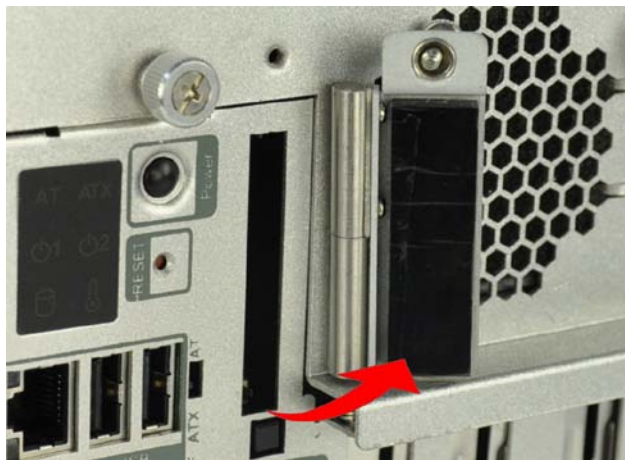

Figure 3-2: CF Card Socket Cover
Step 2: Open the CF card socket cover (**Figure 3-2**).